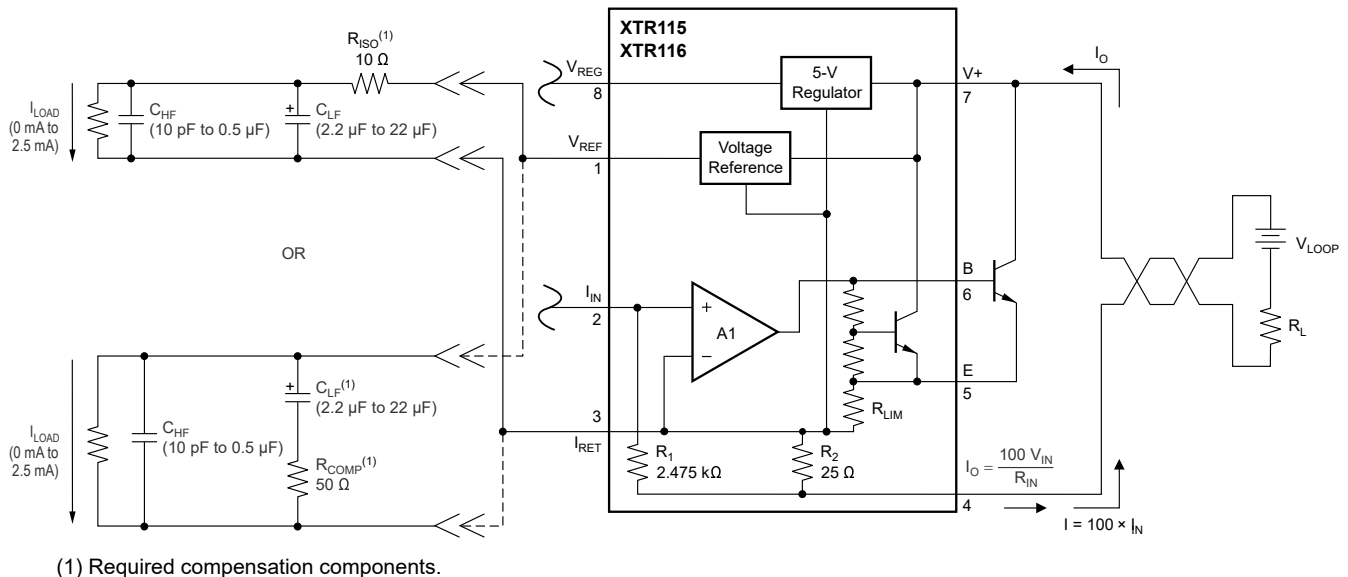

Figure 8-4. Stable Operation With Capacitive Load on V_{REF}
(1) Also see Figure 8-4.
(2) See Section 8.1.1.
Additionally, stability concerns apply to the V_{REF} reference buffer when driving capacitive loads. Figure 8-4 shows that two filtering capacitors are required, one C_{HF} of 10 pF to 0.5 μF and another C_{LF} of 2.2 μF to 22 μF. Either a series isolation resistance R_{ISO} or a snubber R_{COMP} is used, depending on application requirements.